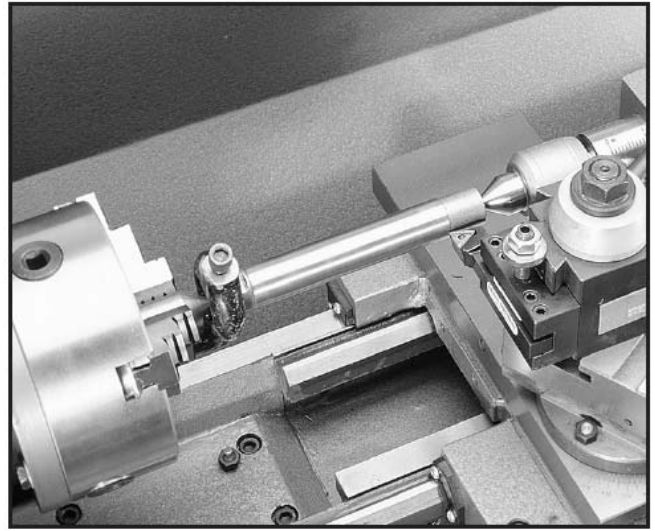

Figure 29
4. Attach a lathe dog at the spindle end to the bar stock from step 1, and mount it between the centers as shown in **Figure 29**.